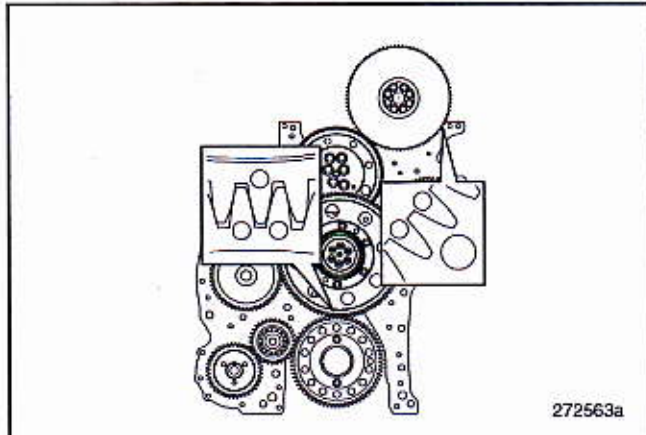

Figure 262 — Camshaft Gear Check
5. Align the punch marks on the camshaft gear teeth to straddle the alignment hole in the timing gear plate and install the camshaft gear without the damper as shown in Figure 262. Install the clamp plate tool, J 44514-1A, using **Position B** of the gauge plate tool to secure the camshaft gear to the camshaft and loosely install the two retaining bolts.